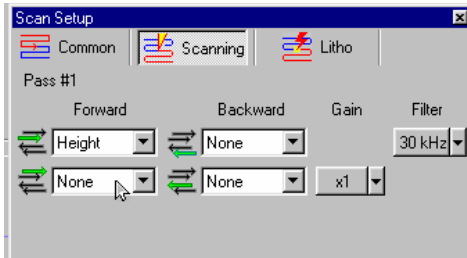

Fig. 3-59
- Click the mouse button on the “signal input field” of the second channel (Fig. 3-59)